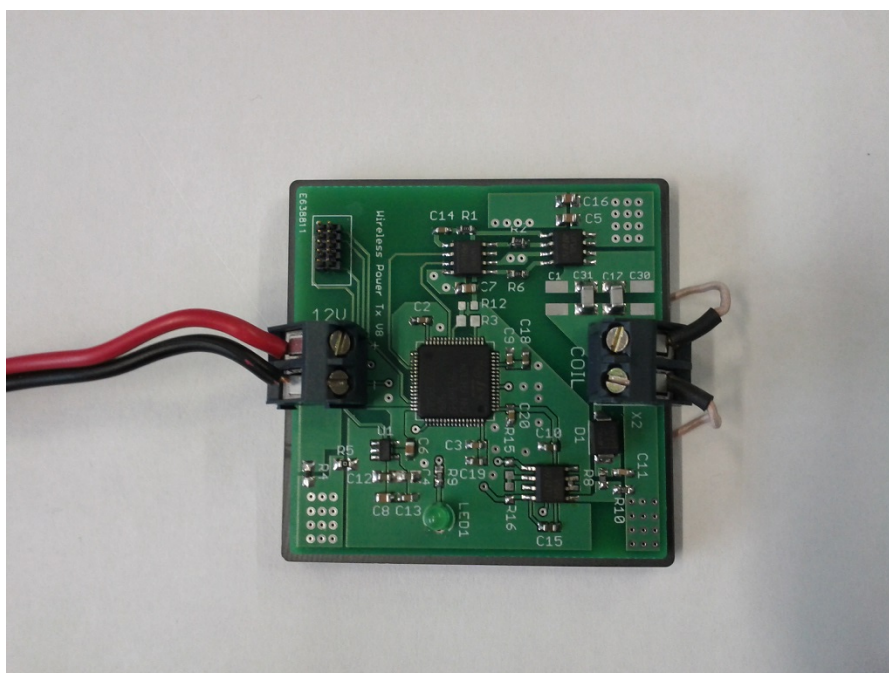

Figure 2 - Connection of power source to the system.
1. Connect a 12 V DC power source to the bipolar connector on the PCB identified by the "12V" mark; positive pole onto the + marked connector and negative pole onto the - marked connector as shown in Figure 2: